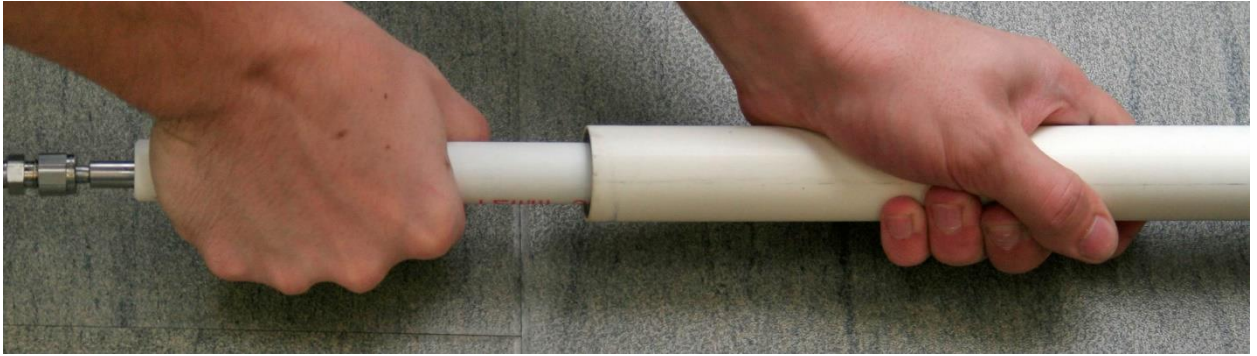

FIGURE 4-10 PUSHING THE ½" PVC SHEATH INTO THE TELESCOPIC COUPLING
- 13 Assemble the next extensometer sensor section by pushing the extensometer's $\frac{1}{2}$ " PVC sheath back into the telescopic coupling (Figure 4-10) to temporarily access the swivel connection.